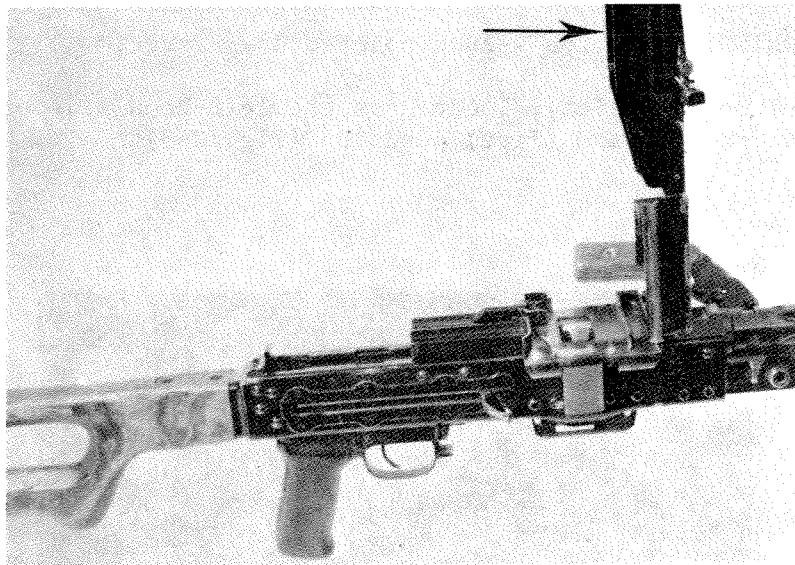

Figure 2-4. Receiver cover fully open.
- b. Depress the receiver cover latch, located at the rear of the receiver, and raise the receiver cover to the fully open position (fig. 2-4). The charging handle and bolt will be in the forward position.